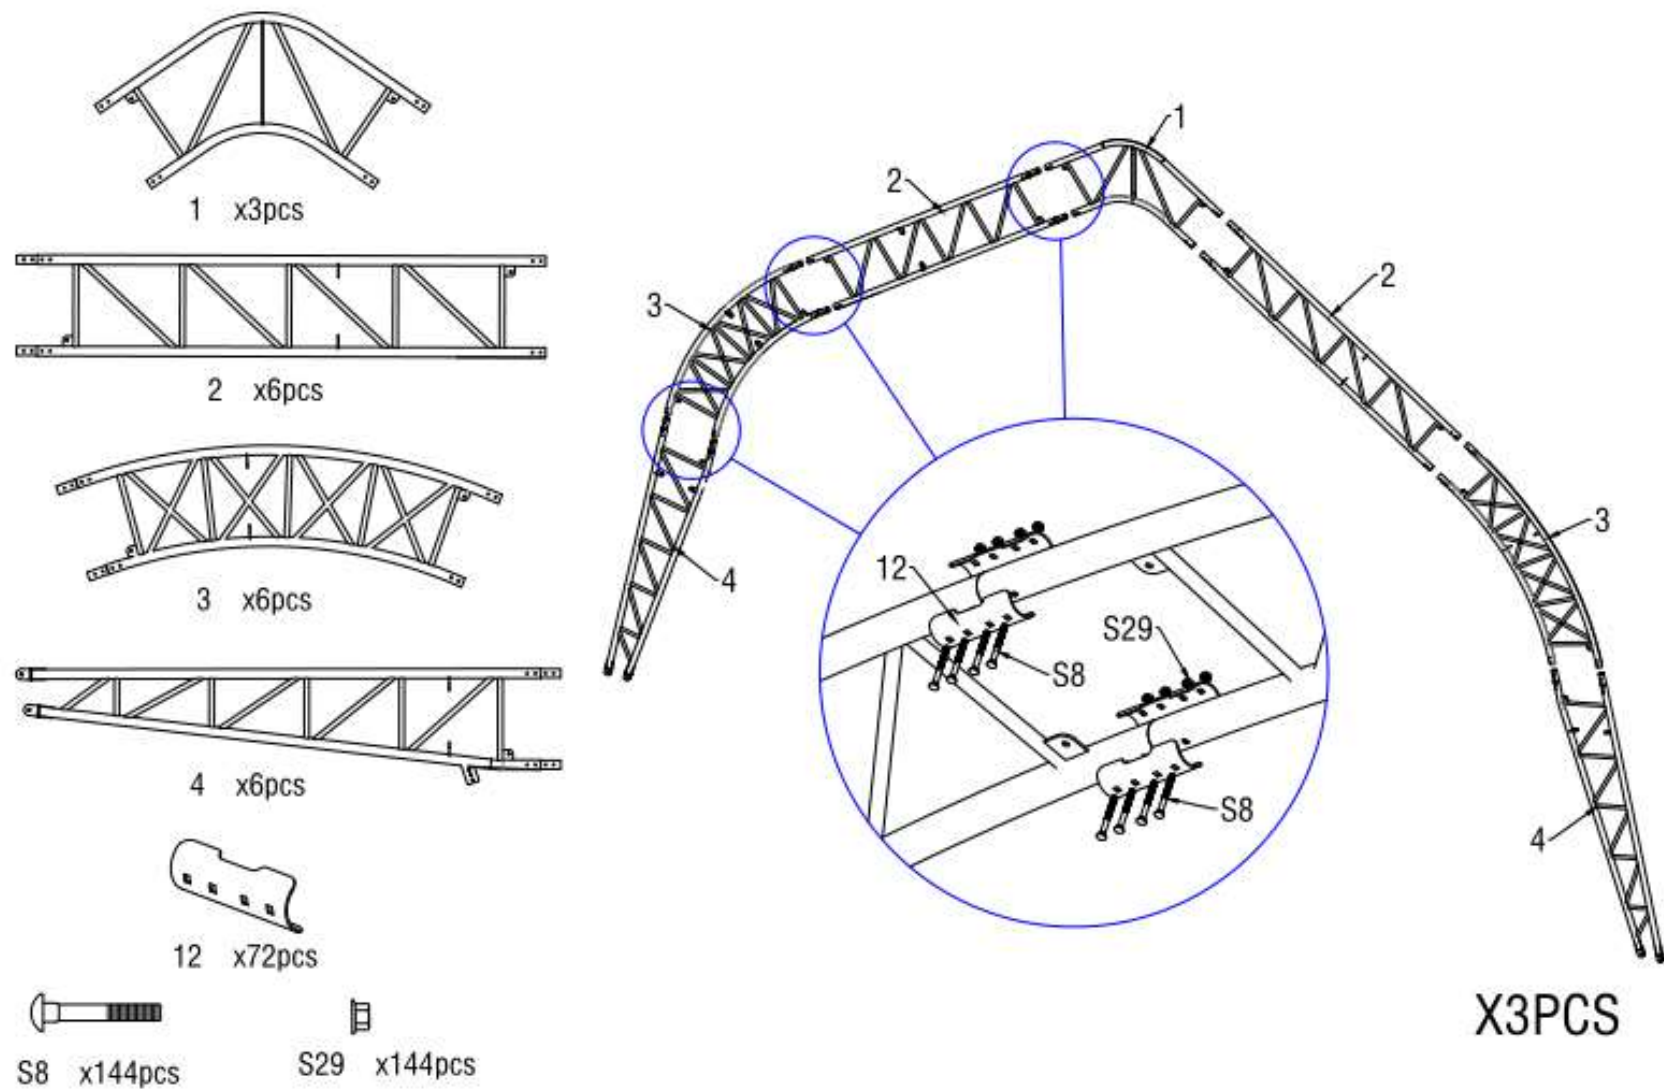

Figure 4
2. As Figure 4 shown to find one Top roof tube (No.1), two Roof upper curving tube (No. 2), two Roof middle curving tube at shoulder (No. 3), two Lower curving tube (4) and assemble every group arch with Screw M8x70 (No.S8). **DO NOT install the screw on the top of the truss where the fabric will rest.**
Note: Top Roof tube, Roof curving tube and Lower curving tube (No.1A,2A,3&4L,4R) which are welded with steel plates for front and back doors are different from the middle arch.(Figure 4)